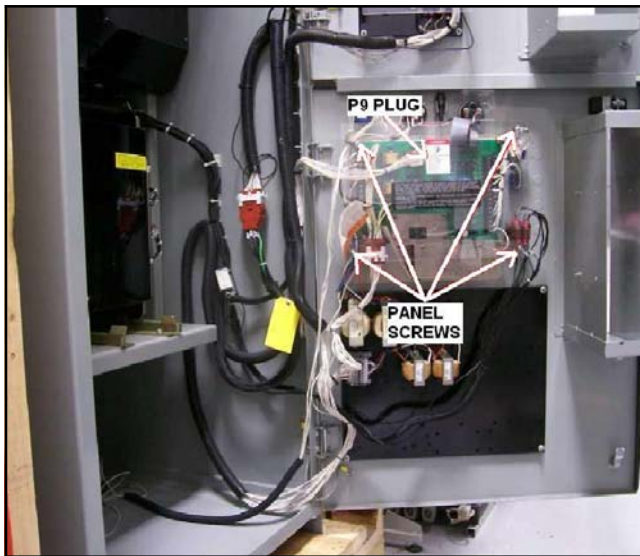

Figure 8 Remove Plastic Panel
6. Remove the plastic protective panel that covers the electronic components on the inside of the enclosure door. See Figure 8.